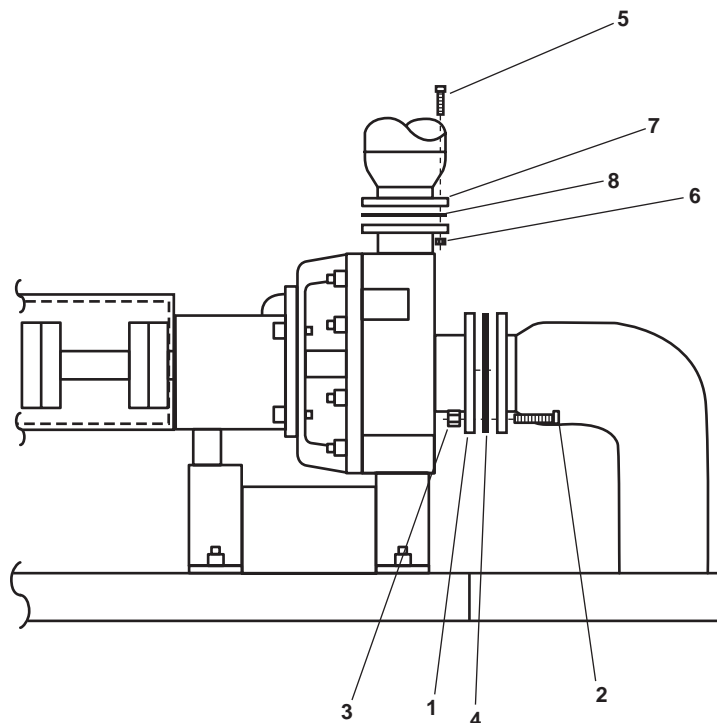

Figure 1. Diesel Engine-Driven Firefighting Pump-Gasket Replacement
1. Place a suitable drain pan under the inlet piping flange (figure 1, item 1).
2. Remove the eight bolts (figure 1, item 2) and eight nuts (figure 1, item 3) from the inlet piping flange (figure 1, item 1). Remove and discard the gasket (figure 1, item 4).
3. Remove the eight bolts (figure 1, item 5) and eight nuts (figure 1, item 6) from the discharge piping flange (figure 1, item 7). Remove and discard the gasket (figure 1, item 8).
1. Fabricate new gaskets from bulk stock using the inlet piping flange (figure 1, item 1) and discharge piping flange (figure 1, item 7) as templates.
2. Install a new gasket (figure 1, item 4) between the inlet piping flanges (figure 1, item 1).
3. Secure the inlet piping flange (figure 1, item 1) with the eight bolts (figure 1, item 2) and eight nuts (figure 1, item 3).
4. Install a new gasket (figure 1, item 8) between the discharge piping flanges (figure 1, item 7).
5. Secure the discharge piping flange (figure 1, item 1) with the eight bolts (figure 1, item 5) and eight nuts (figure 1, item 6).